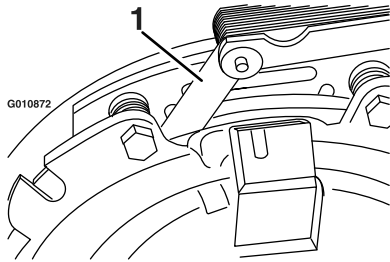
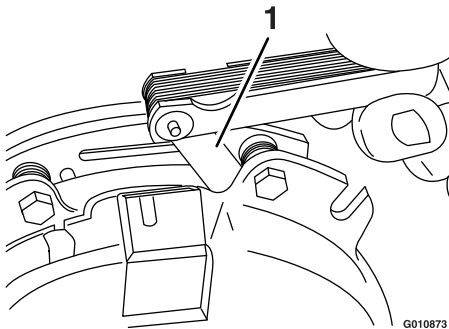

Figure 68
Figure 69
- E. Using a 0.010 inch thick-feeler gauge, verify that a gap is present between the rotor and armature face on both sides of the brake pole as shown in Figure 68 and Figure 69.